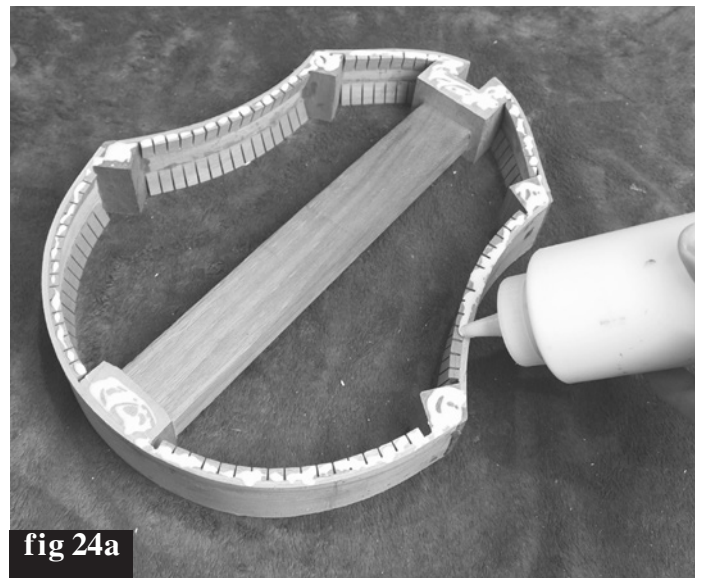

fig 24a
24. When you are ready to proceed, squirt a good bead of glue all the way around the frame, including the corner blocks, heel block and tail block, as shown in figure 24a. You want enough glue so that a little excess will squeeze out when the parts are clamped.